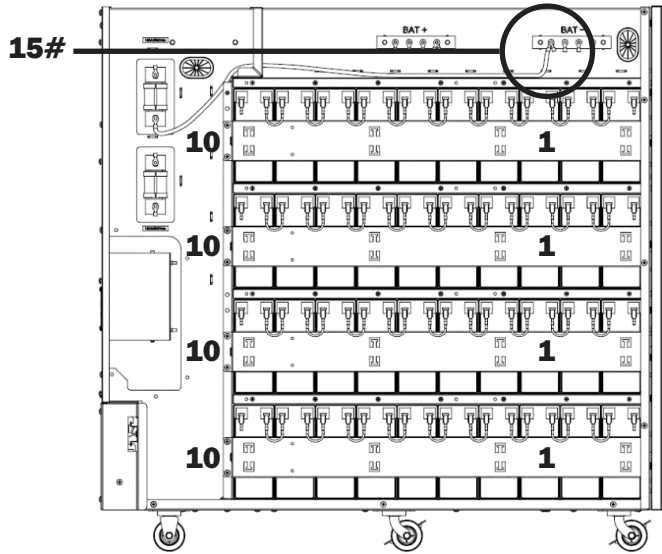

Figure 5-25
- 37. Connect - battery bus bar to the fuse (Figure 5-25).